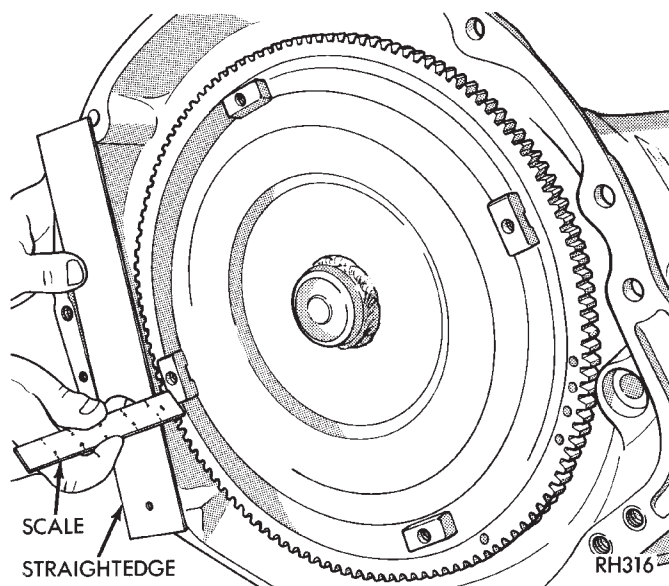

Fig. 5 Checking Torque Converter Seating
(1) Mount transmission on jack. Secure transmission to jack with safety chains.
(2) Check torque converter hub for sharp edges burrs, scratches, or nicks. Polish hub with crocus cloth or 400 grit paper if necessary. Hub must be smooth to avoid damaging pump seal.
(3) Lubricate converter pilot hub, drive hub and pump seal lip with Mopar ATF Plus or Dexron II transmission fluid.
(4) Align and install converter in oil pump. Verify that converter is fully seated. Use straight edge and steel ruler to check seating (Fig. 5). Surface of converter lugs should be 12.7 mm (1/2 in.) to rear of straight edge when converter is fully seated.
(5) Temporarily secure converter with C-clamp attached to housing or with metal strap attached across converter housing.
(6) Check condition of converter driveplate. Replace driveplate if cracked, distorted or damaged.
(7) Verify that transmission dowel pins are seated in engine block and protrude far enough to hold transmission in alignment.
(8) Move transmission under vehicle and position it at rear of engine. Remove C-clamp or strap used to secure converter in housing.